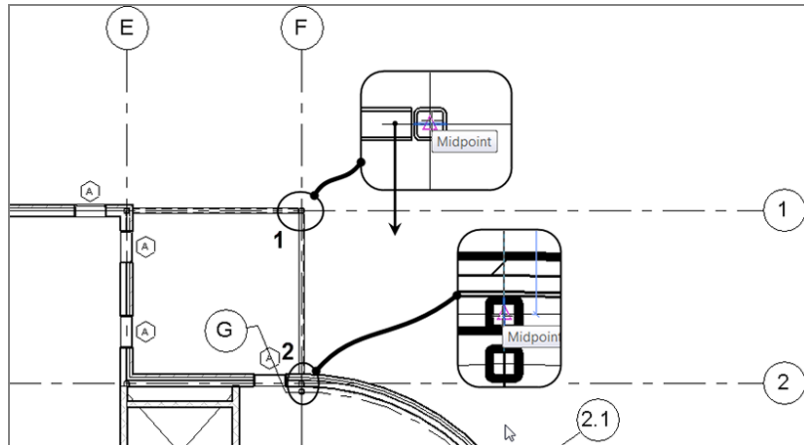

FIGURE 8.36: Adding the second beam
8. With the Beam command still running, pick the exterior column (F-1) and then column F-2, as shown in Figure 8.36.